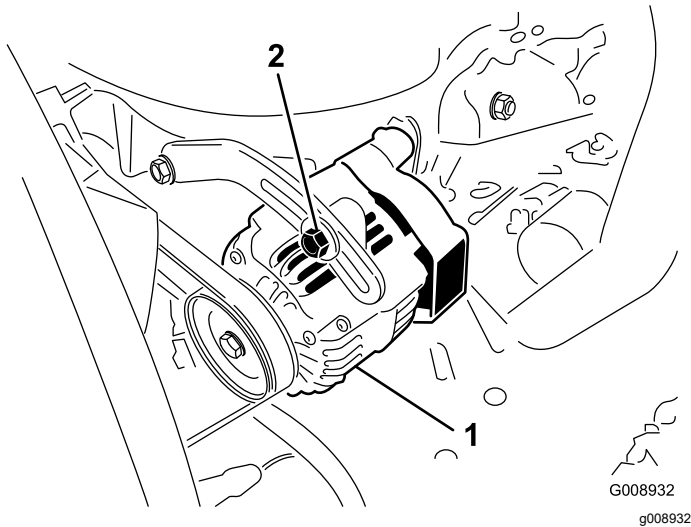

Figure 102
Check the condition and tension of the belts (Figure 102) after every 100 operating hours.
3. If the deflection is not 10 mm (3/8 inch), loosen the alternator mounting bolts (Figure 102).